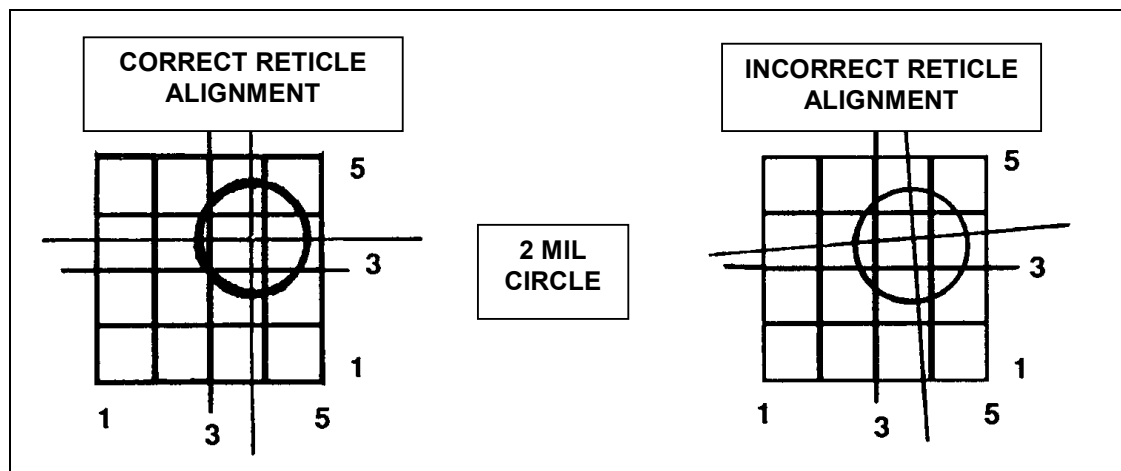

Figure B-14. Reticle alignment.
c. Before recording an aiming point, align the telescope reticle with the scoring grid of the test panel. If the reticle is out of alignment, rotate the telescope until you see the correct sight picture (Figure B-14).